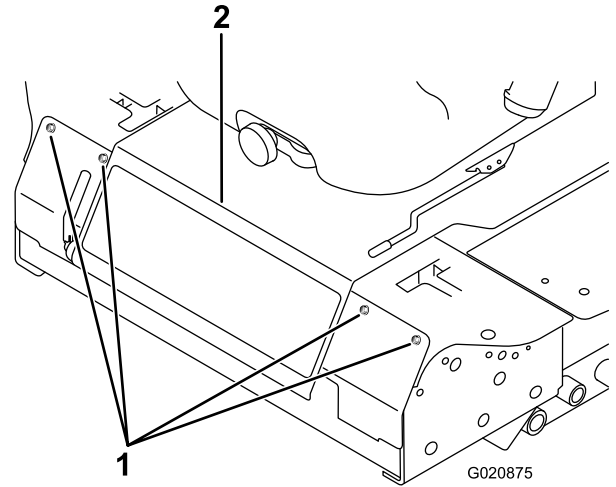

Figure 44
- Remove the bolts securing the front panel and remove the panel (Figure 44).